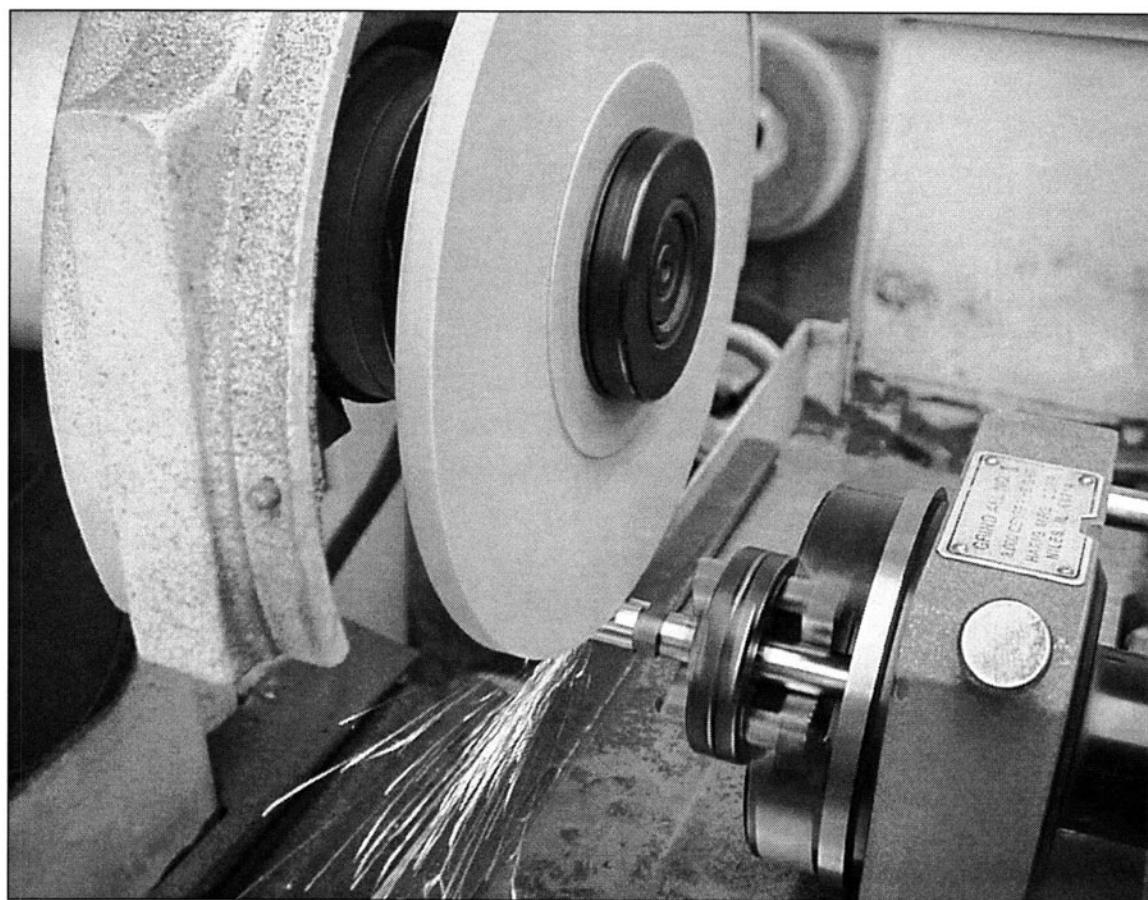

FIGURE 13-9 The OD of a pin is being ground in a spin fixture.
25. *Feed away from your spin fixture when grinding pin diameters. (See Fig. 13-9)*